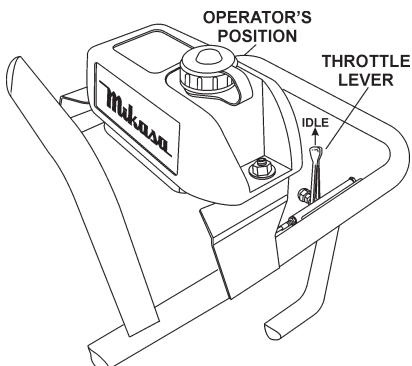
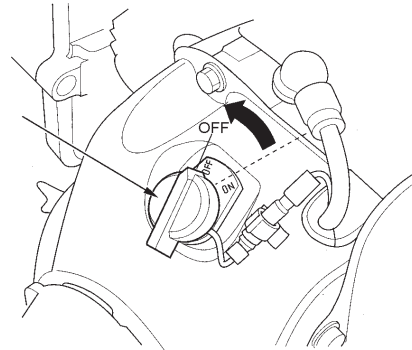

Figure 10. Throttle Lever (Idle)
Figure 11. ON/OFF Switch (Off Position)
1. Move throttle lever quickly from the **FULL OPEN** to **IDLE** position (Figure 10) and run the engine for three minutes at low speed. After the engine **cools**, turn the engine start/stop switch to the **STOP** position (Figure 11).